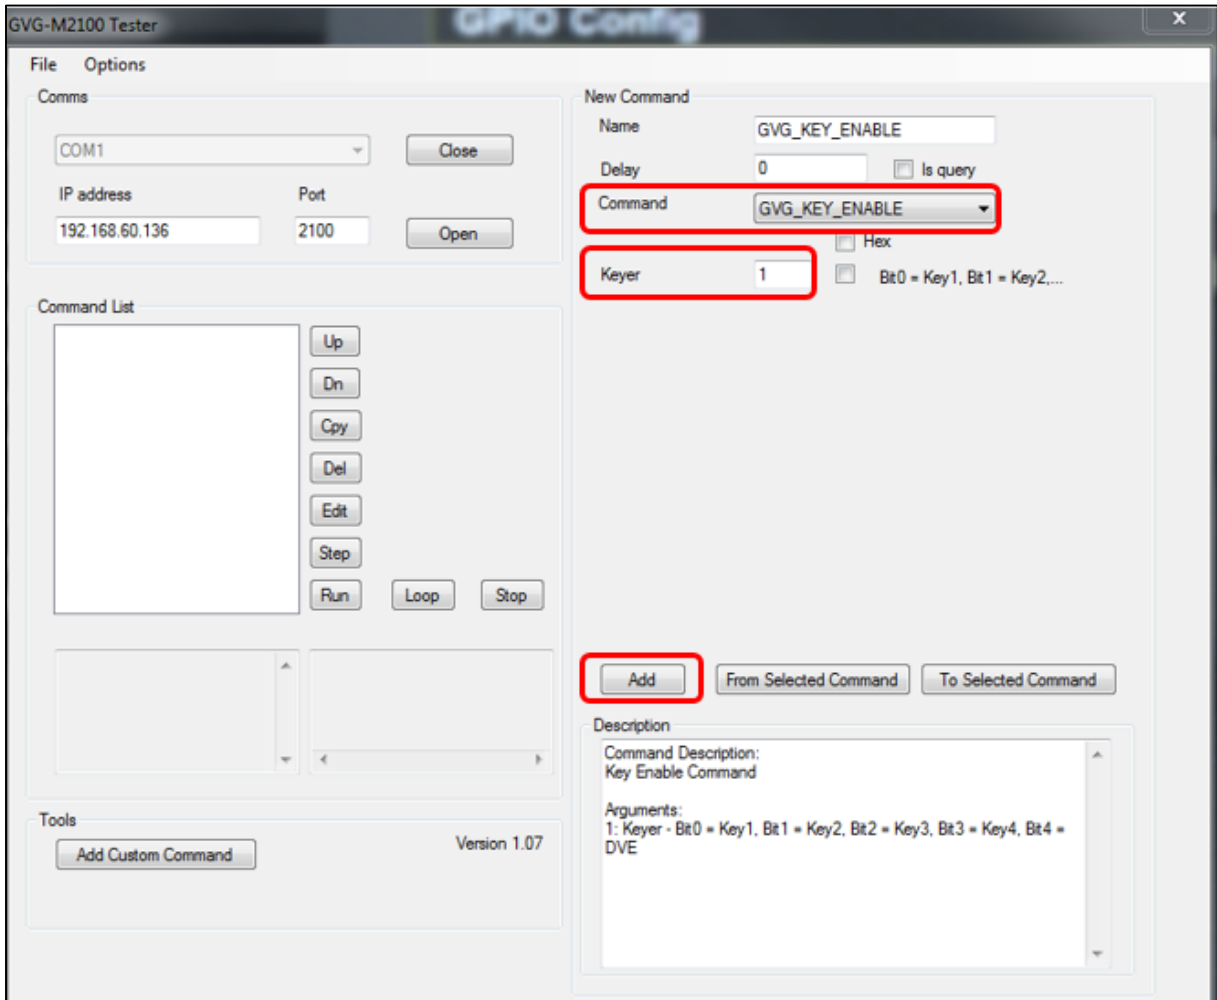

Figure 5-3: M2100 – Add Keyer Command
- 1) Select '**GVG_KEY_ENABLE**' in the 'Command' option, include '1' in 'Keyer' and press 'Add' button, so the command will be moved/stored to the 'Command List' on the side of the window, as Figure 5-3.